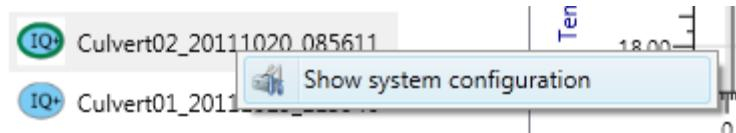

Figure 83. Right-Click on File Name to See IQ Settings
- Right click on the file name to view the settings used to collect the data (Figure 83)